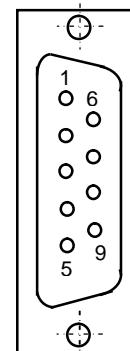

Figure 5.12
5.3.4.4 The hand wheel channel is linked to connector "6" on the front panel of the **CPU ECDA** module. The connector type is shown in Table 3.2. The arrangement of connector pins is shown in Figure 5.12. The channel signals are given in Table 5.12.